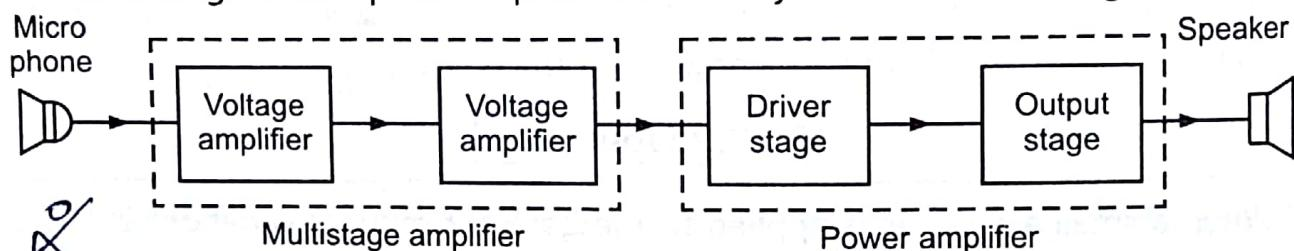

Fig. 3.14 : Public address system
- A block diagram of a practical public address system is shown in Fig. 3.14.